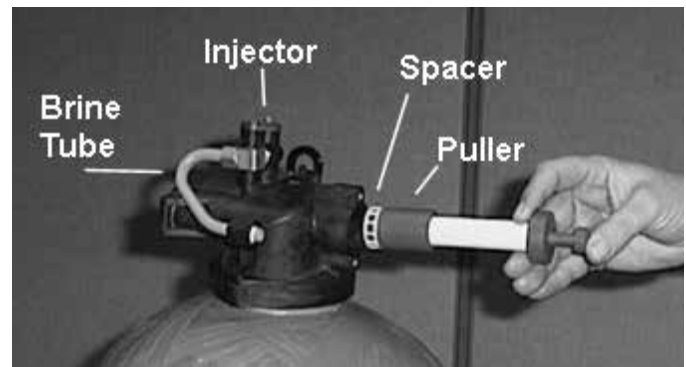

Figure 8
8. Insert the pin end of the spacer tool into the valve body with the pins retracted (button pulled back). Push the tool tight against the spacer and push the button in, (see Figure 8). When the button is pushed in, the pins are pushed out to engage the 1/4 dia. holes in the spacer. Remove the tool from the valve body. The spacer will be on the end. Pull the center button back, the pins will be retracted and the spacer can be removed from the spacer tool.
12. To restuff a valve body, first take the end ring (the plastic or brass ring without holes), then with your thumb press the button on the brass sleeve end. The large dia. inner portion is now exposed (see Figure 8). Place the end ring on this pilot with the lip on the end ring facing the tool. Push the tool into the valve body bore until it bottoms. While the tool is in the valve body, take a seal and press it into the inside diameter of the exposed brass female end.